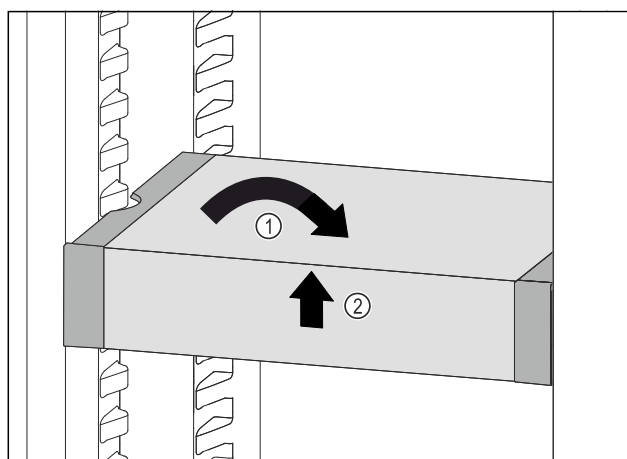

Fig. 101
- Set VarioSafe straight. Fig. 101 (1)
- Lift VarioSafe at the front. Fig. 101 (2)